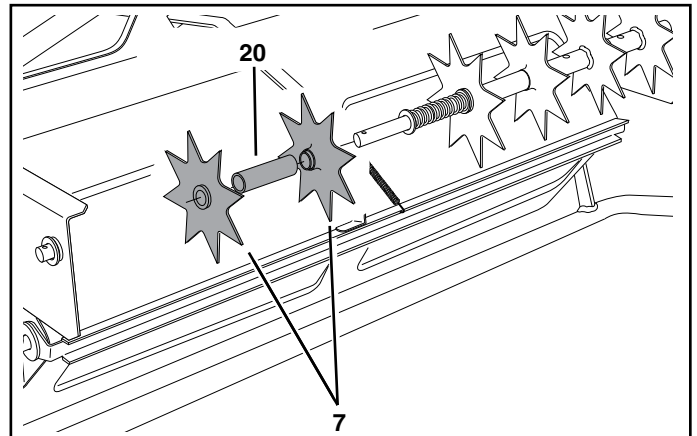

FIGURE 17
- Place two spike disks (7), separated by a long spacer tube (20), onto the shaft. Fit the long spacer tube onto the ends of the flanged bearings in the disks. See figure 17.